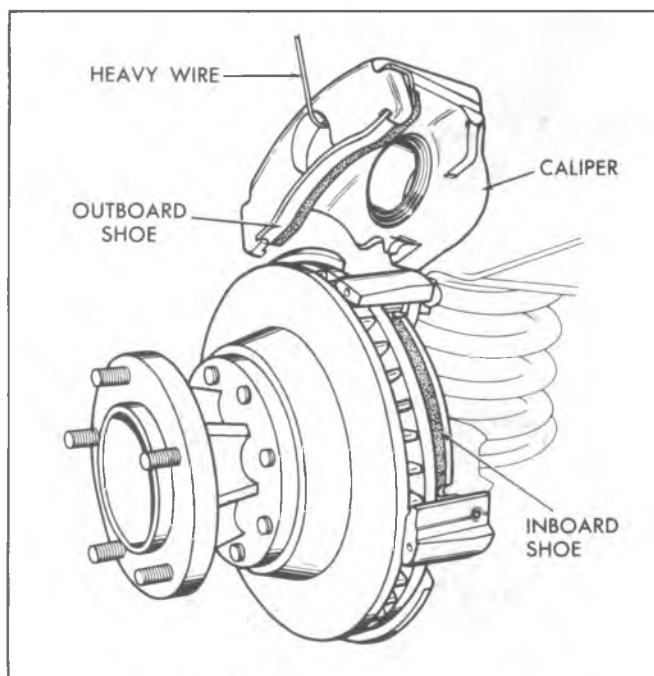

Fig. 5-35--Removing Caliper from the Disc
5. Lift the caliper off the disc and support in a raised position with a heavy wire (fig. 5-35).